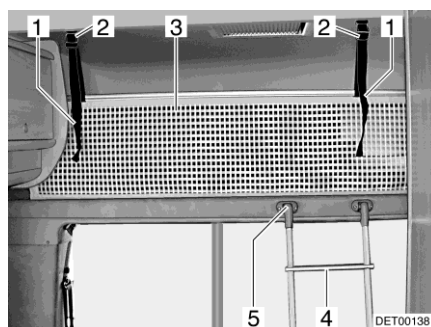

Fig. 68 Overcab bed
Always use the access ladder (Fig. 68,4) provided as standard to access the overcab bed.
- Attach the ladder with the rails to the holder (Fig. 68,5) on the alcove panel.
**Safety net** The safety net (Fig. 68,3) is stored as standard between the mattress and slatted frame. Only use the safety net if persons are already in the alcove.
**Setting up:** ■ Let the retaining straps (Fig. 68,1) snap into the holders (Fig. 68,2) on the ceiling.